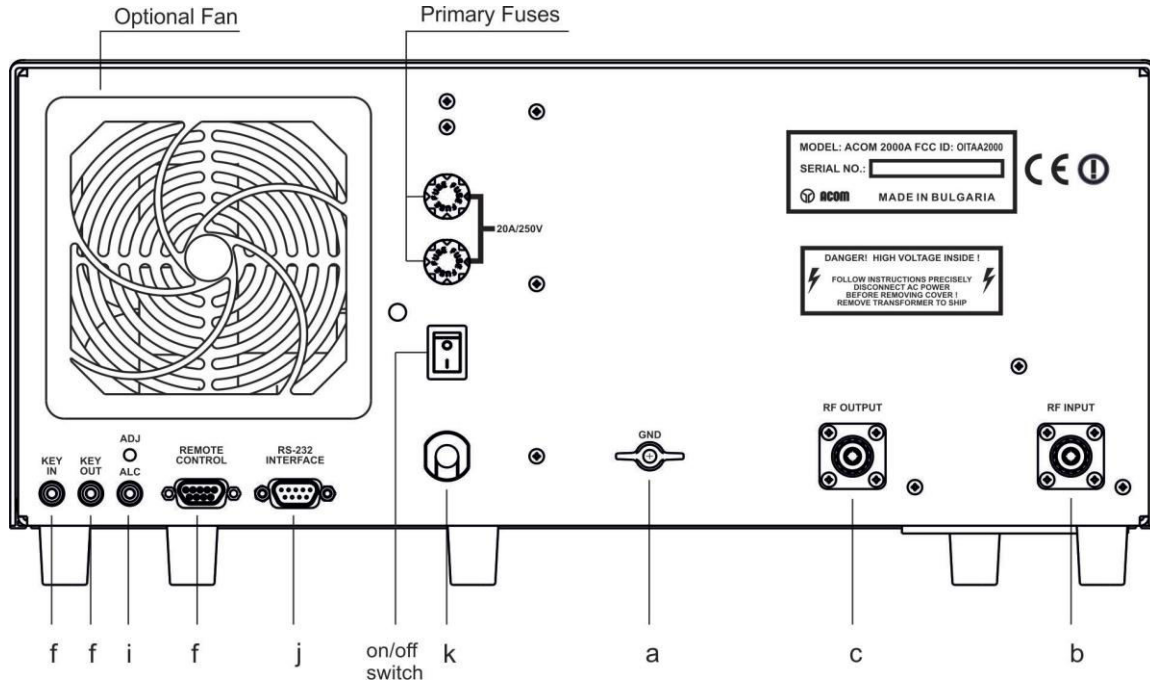
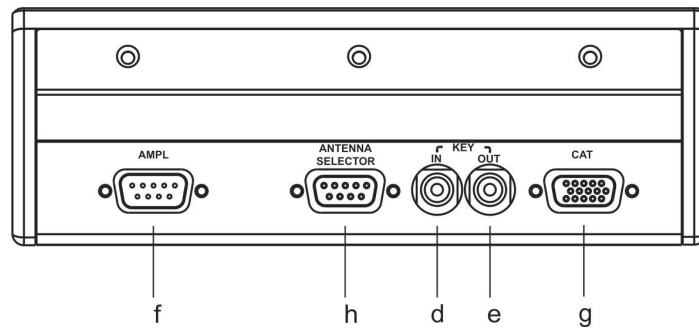
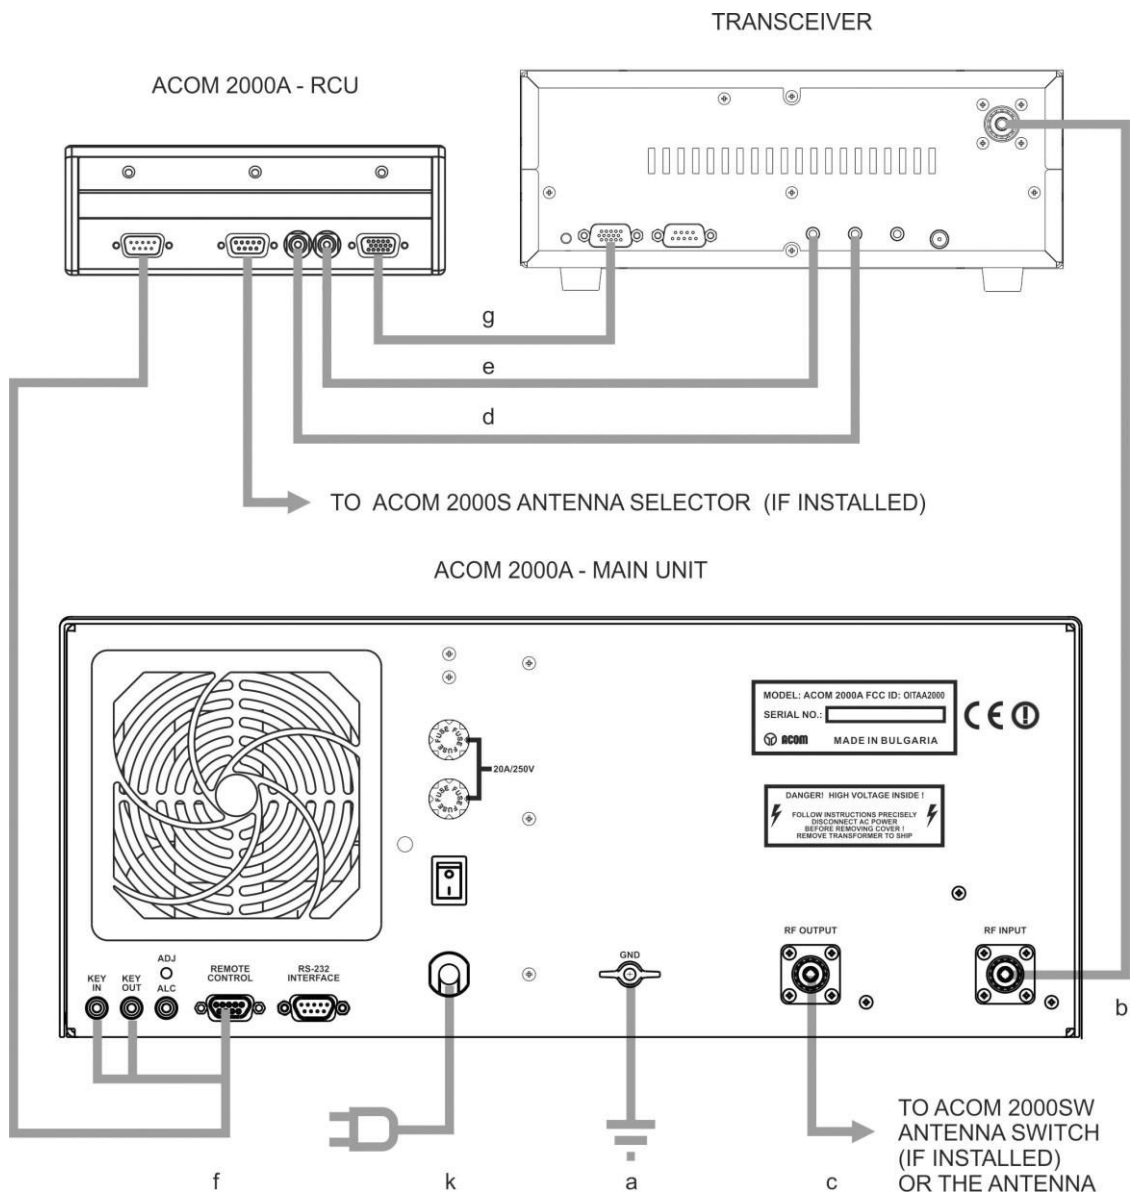
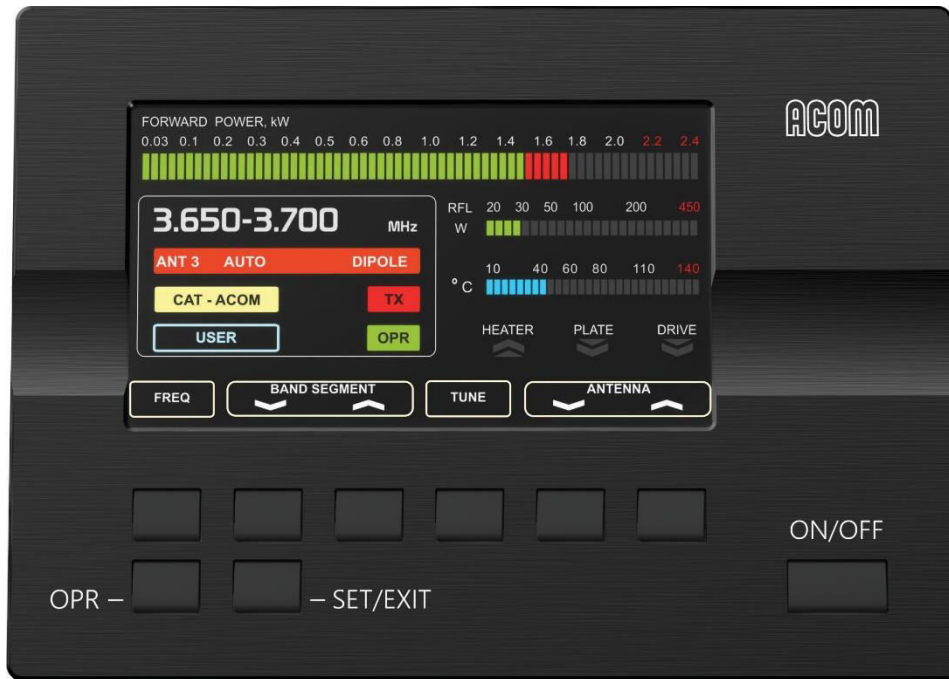

Figure 2-2 Amplifier Main Unit Connections
Figure 2-3 Amplifier Remote Control Unit Connections
Figure 2-4 Main Unit, RCU, Antenna Selector and Transceiver connections
Figure 3-1 Remote Control Unit (RCU)
- a) Connect the ground stud of the amplifier Main Unit (on the rear panel, marked GND) to the station's grounding system (see *Figure 2-2 Amplifier Main Unit Connections*, *Figure 2-3 Amplifier Remote Control Unit Connections* and *Figure 2-4 Main Unit, RCU, Antenna Selector and Transceiver connections*).
This fan is not necessary in SSB and CW modes, nor in continuous carrier modes (RTTY, SSTV etc.) with carrier down times of maximum 15 minutes and a subsequent pause of 3 minutes. For higher duties the fan is recommended. The auxiliary fan (119x119mm) is supplied as an option with a set of 8 screws, nuts and washers. It may be mounted by the manufacturer or dealer on request (see *Figure 2-2 Amplifier Main Unit Connections*). Contact your dealer or see the Technical Supplement for details.
After following all instructions in Section 2 *INSTALLATION*, you can turn ON the Main power switch on the rear panel (see *Figure 2-2 Amplifier Main Unit Connections*). The front-panel red indicator must light and a picture will appear on the RCU (see *Figure 3-1 Remote Control Unit (RCU)*):
Except for the main power switch on the rear panel, the amplifier is controlled via the RCU (see **Figure 3-1 Remote Control Unit (RCU)**). The amplifier is toggled ON or OFF by pressing the ON/OFF button. There are two more fixed function buttons located at the left bottom – the OPR button which is used to toggle between OPERATE and STANDBY (STB) modes, and the SET/EXIT button - to enter and exit the menus.
In order to turn on the amplifier, while the rear panel Switch (see Figure 2-2 Amplifier Main Unit Connections) is on, press the ON/OFF button on the RCU and hold it on for about one second and you will hear TEST being sent in CW.